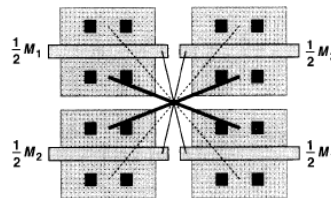

Figure 18.19 Common-centroid layout.
- Fig. 18.19; Each transistor is decomposed into two halves that are placed diagonally opposite of each other and connected in parallel. Routing may become complicated though.